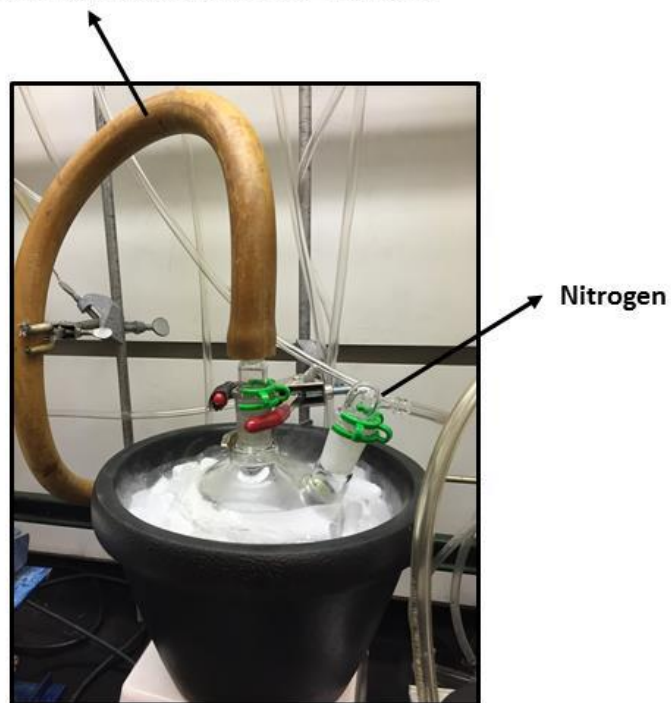

Figure 4: Evaporating Ammonia
Step 6 – Evaporating Ammonia (Figures 4 and 5) and Quenching of WR
2. Connect nitrogen to the side arm (Figure 4).